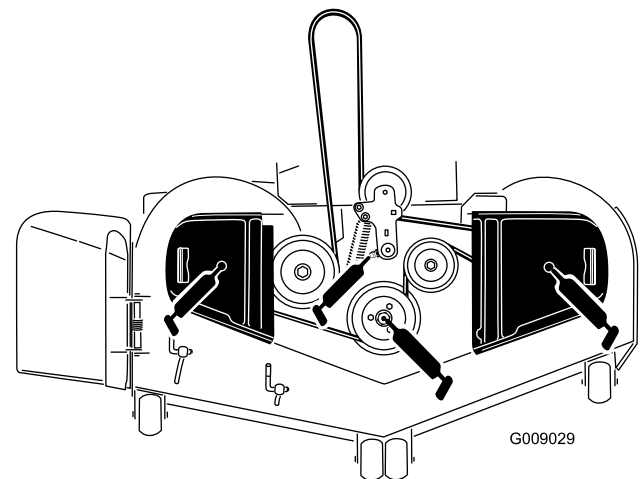

Figure 42
3. Grease the mower deck idler pulley pivot until grease come out the bottom (Figure 42).
4. Grease the three spindle bearings until grease comes out (Figure 42).
5. Grease the drive belt idler arm (Figure 42).